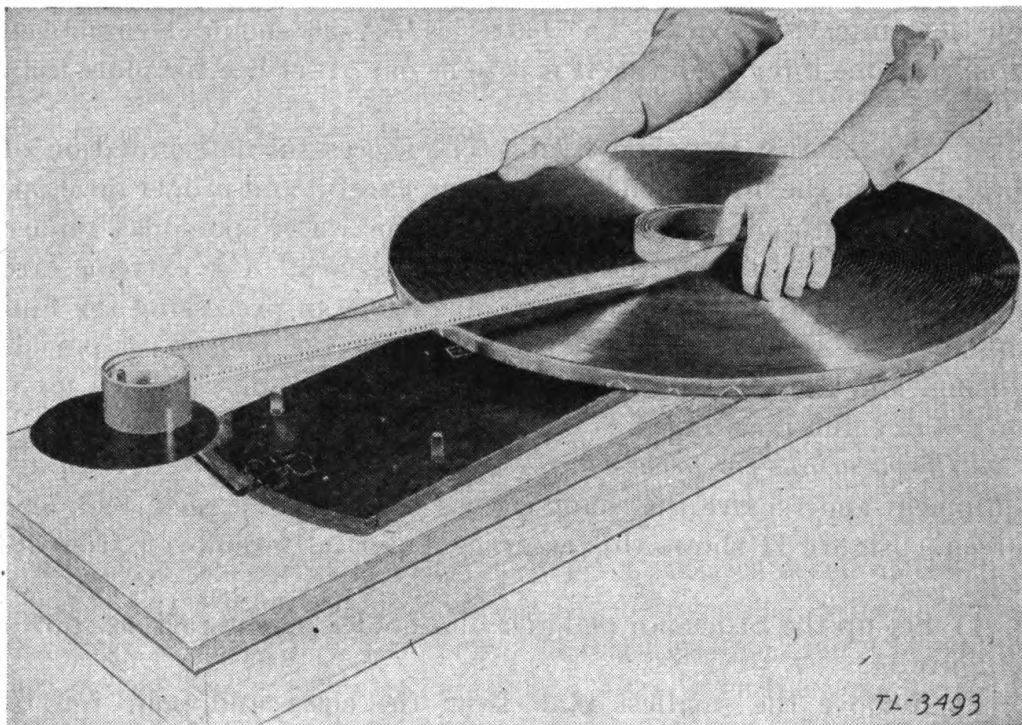

FIGURE 22.—Loading film onto Stineman reel.
b. Loading film onto reel.—Do this in *total* darkness (photographic darkroom or any completely dark room). Remove the exposed film from the can and determine which side of the film has the emulsion on it. Do this by pressing the film between your moistened fingers or lips. The wet fingers or lips will stick to the emulsion side of the film. Rewind the film *emulsion side in*, and place it on the film holder as shown in figure 22. Rewinding the film before putting
it on the film holder will put the counter edge of the film next to the Stineman reel so that the possibility of scratching the burst photograph portion of the film is lessened. Secure the end of the film by one of the perforations on the hook on the inner end of the reel spiral so that the film will wind on the reel emulsion side out. Always check for emulsion side of film as described above before loading it into the reel. Guide the film with the left hand as in figure 22 and rotate the reel in a counterclockwise direction to wind all of the film tightly on the reel, emulsion side out. When you have it all on the reel, double back about one-half inch of the outer end and insert in the spiral to hold this outer end secure. Two or more short pieces of film may be hooked together by doubling each back and hooking together so that the reel may be filled before developing.